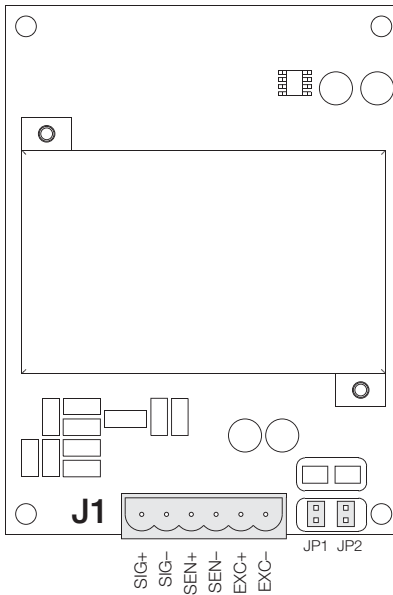

Figure 3-3. Single-Channel A/D Card
2. Remove connector J1 from the A/D card. The connector plugs into a header on the A/D card (see Figure 3-3). Wire the load cell cable from the load cell or junction box to connector J1 as shown in Table 3-3.